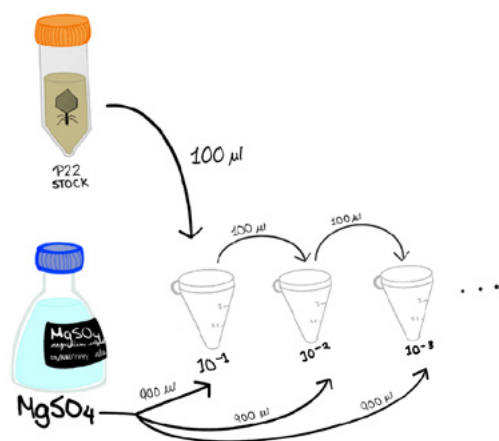

Figure 4. Step-by-step instructions on creating serial bacteriophage dilutions
2. Next, create serial bacteriophage dilutions by taking the 100 μl of phage P22 stock and combining it, in a 1.5 ml Eppendorf tube, with 900 μl of MgSO_4 solution. From this first dilution, take 100 μl and combine it in another tube with 900 μl of MgSO_4 solution. Repeat twice more to achieve a 10^{-4} (1/10 000) dilution (figure 4).
3. Repeat this process to obtain four individual tubes of 10^{-4} dilutions (figure 4). Dilutions of 10^{-3} or 10^{-4} should be suitable, but this may need to be optimized. Ideally, teachers should try the experiment with their phage preparation beforehand, to check the appropriate dilution to give countable plaques.